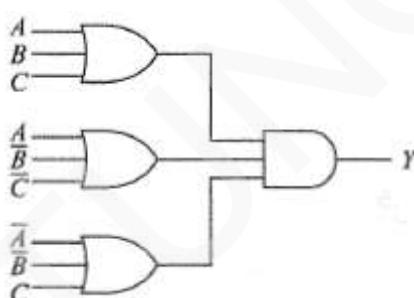

Figure 3.26:Product-of-sums circuit
- the logic circuit for Y is shown in Figure: 3.26.